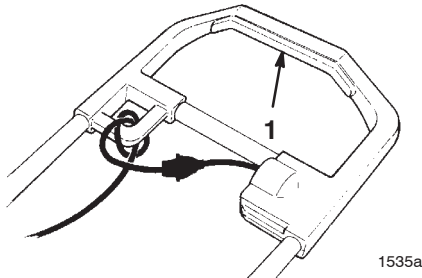

Figure 7
1. To start the rotor, squeeze the control bar (Fig. 7).